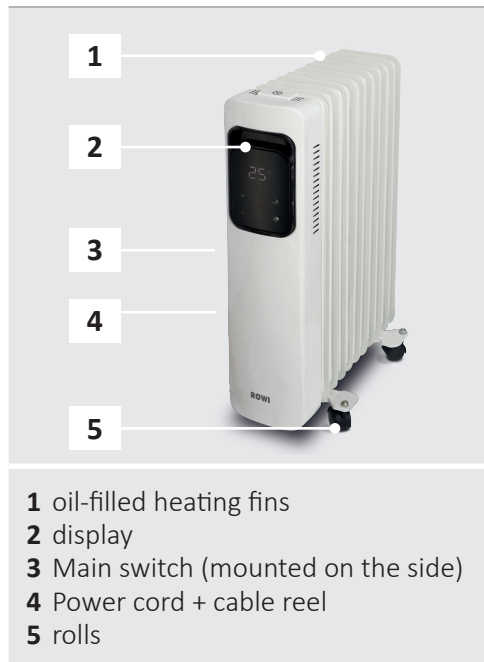

Fig. 2: Device overview (fig. depending on model)
1. Ensure that the **main switch** (see Fig. 2, No. 3) is in the off position. Then connect the device to a grounded socket protected by a **residual current device**.
2. Now switch on the device by pressing the **main switch** (see Fig. 2, No. 3). A short beep will sound, the display will light up briefly, then the device will go into standby mode and the  symbol will light up.
2. To switch off the device completely (e.g. for longer heating breaks or for storage), set the main switch (see Fig. 2, No. 3) to position 0 and disconnect the mains plug.